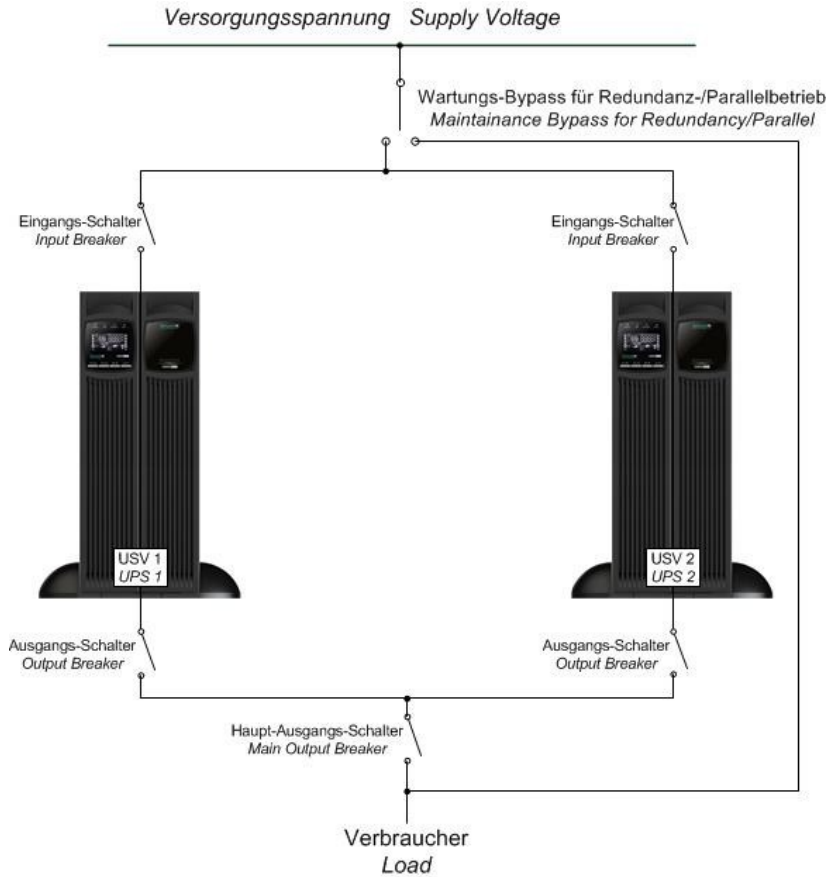

Figure 17: Block circuit diagram for parallel connection
3. ONLINE also recommends an additional maintenance switch (not included) to install the group (see *Figure 17: Block circuit diagram for parallel connection*).